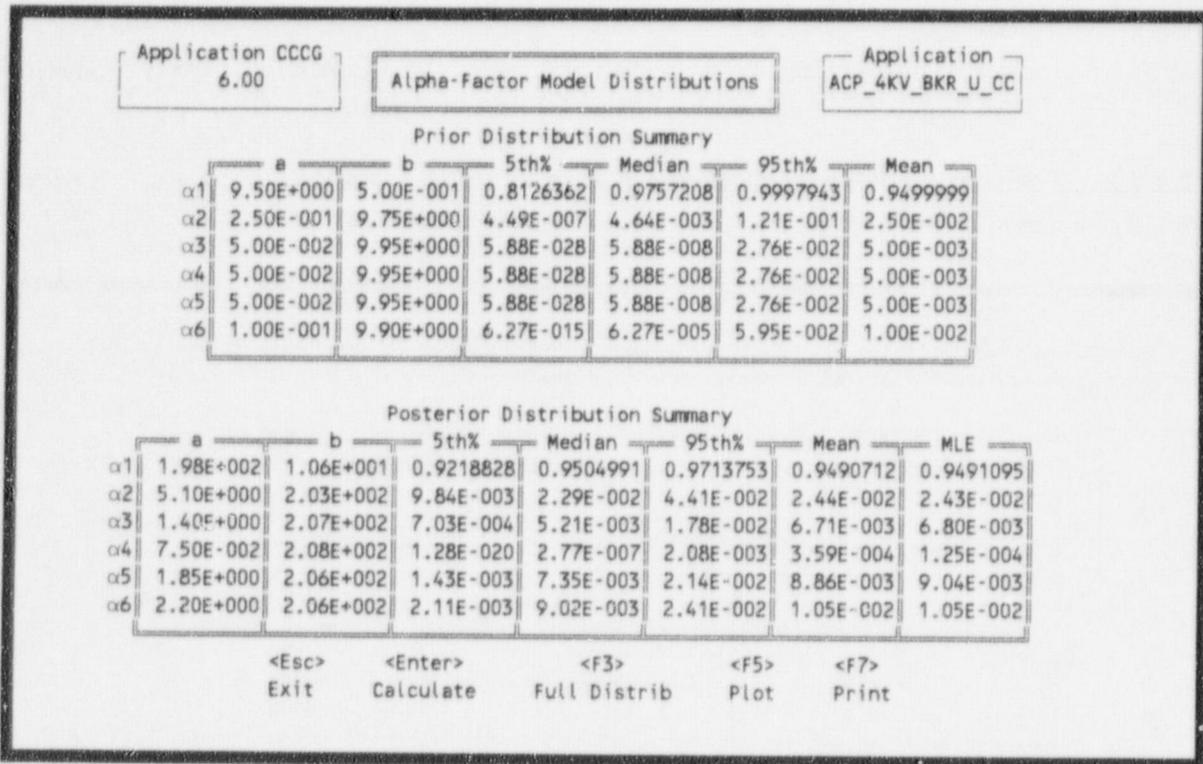

Figure 30. Generic—Homogeneous Bayesian Distributions.
**3.4.1.3 Homogeneous Bayesian Distributions.** The results of Homogeneous Bayesian calculations are displayed in Figure 30.